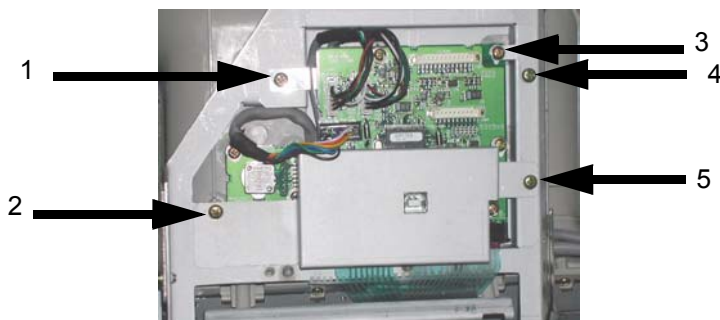

Figure 8-67 Removing EMC guard
- 1.) Unscrew five (5) screws and remove the EMC guard from the HUB Board. Refer to section Figure 8-67 on page 25..